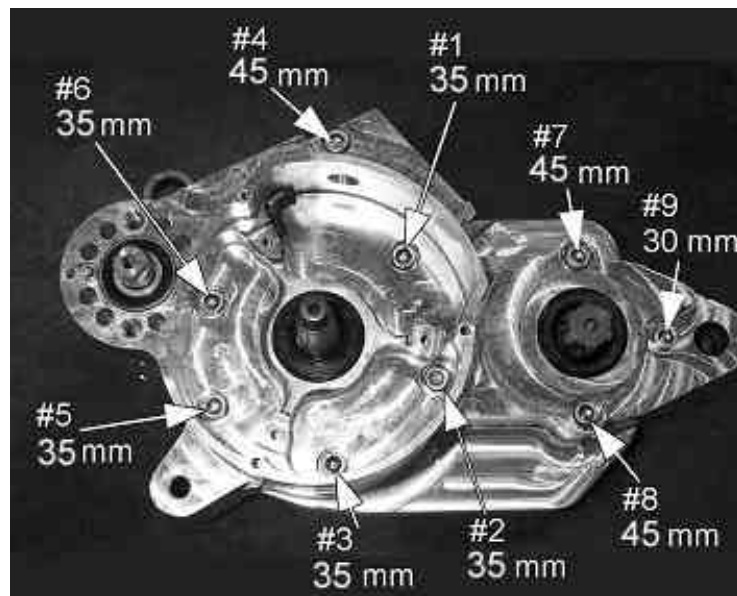

Figure 28
14. Torque to 9 Nm (80 in-lb) in the pattern shown in figure 28.